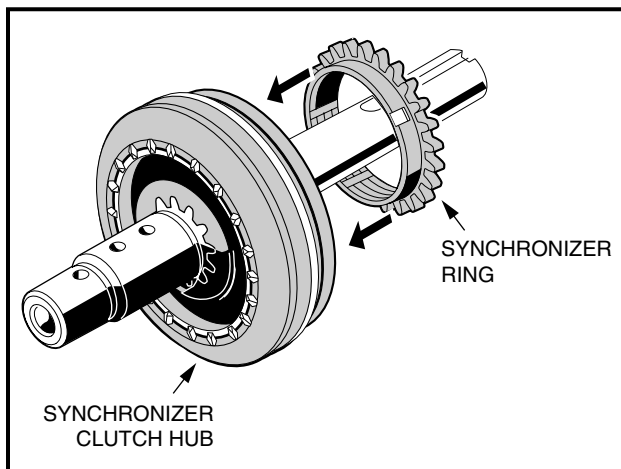

Figure 16a-66 Synchronizer Ring
11. Install the narrow bearing (47), wide bearing (46), and input gear (45) onto the shaft. The smooth collar of the input gear should be oriented toward the synchronizer ring as shown (**Figure 16a-48, Page 16a-23**). The gear should seat inside the ring.